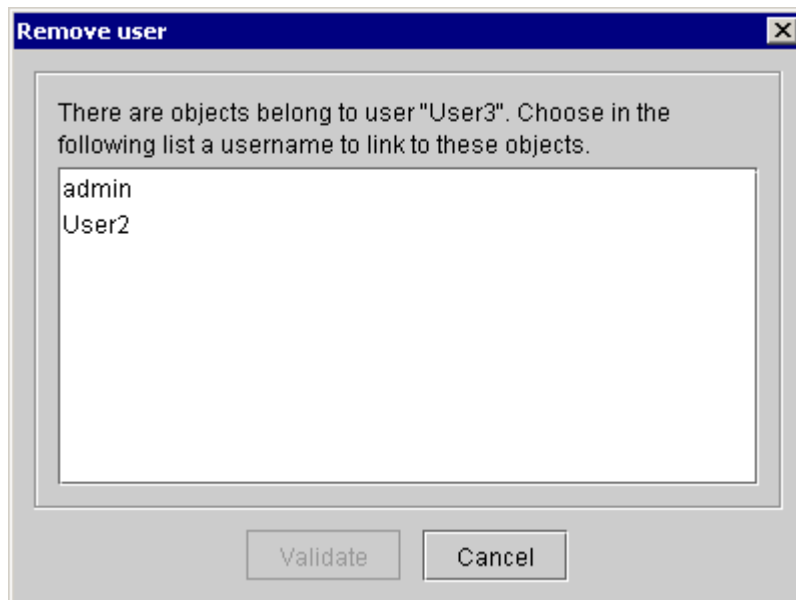

Figure 8 : New Owner
- ◆ If the removed user is the owner of a DAS Object (models, systems, etc ...), the administrator must specify the user who will be the new owner of this object. During removal, a dialog box (Figure 8) asks Administrator for the new owner.